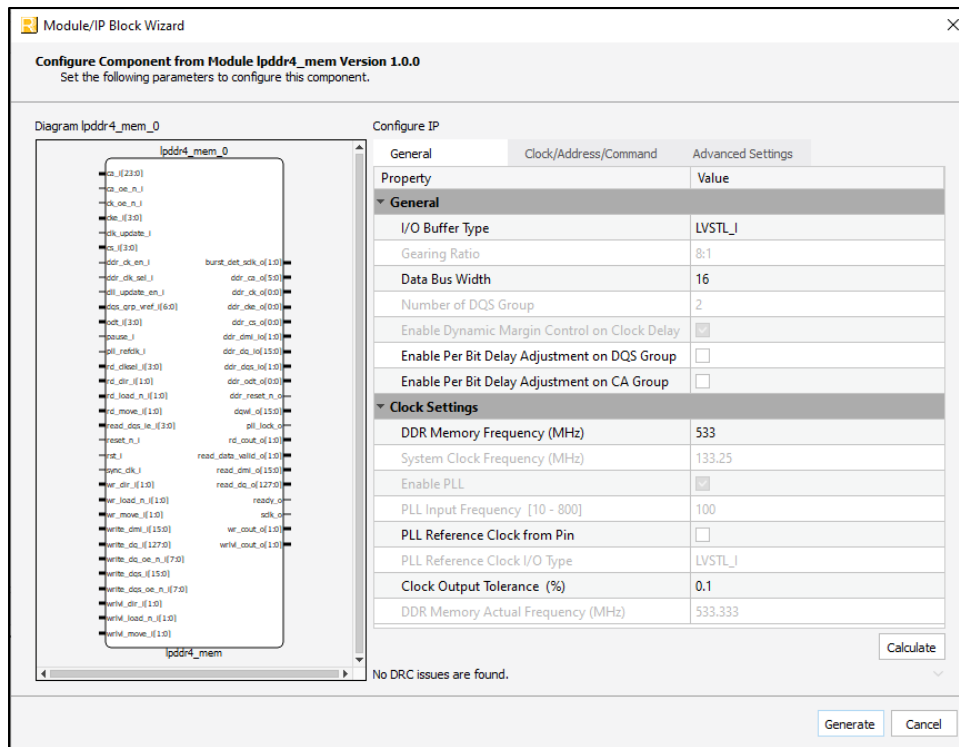

Figure 3.2. Configure Block of DDR Memory Module
3. In the dialog box of the **Module/IP Block Wizard** window, configure LPDDR4 Memory module according to custom specifications using drop-down menus and check boxes. As a sample configuration, see Figure 3.2. For configuration options, see Table 2.2.